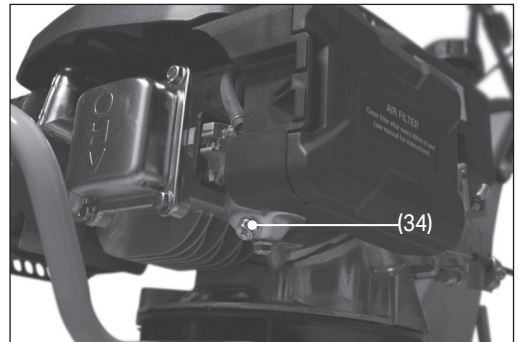

Fig. 29
4. Loosen the float bowl drain bolt (34) and drain the fuel into the container (Fig. 29).